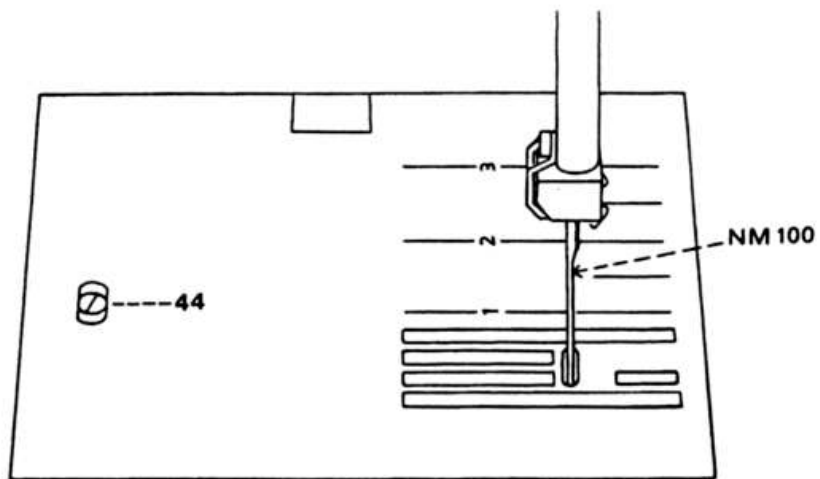

Fig. 10c
- Turn adjustment eccentric 44 until the distance from the front and rear edges of the needle hole is equal (fig. 10c).